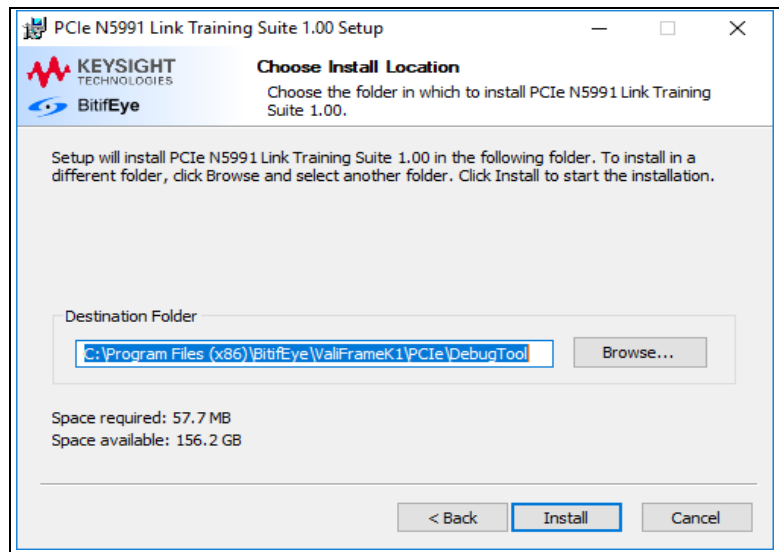

Figure 6 Installer Location Window
- The install location window is displayed as shown in Figure 6.